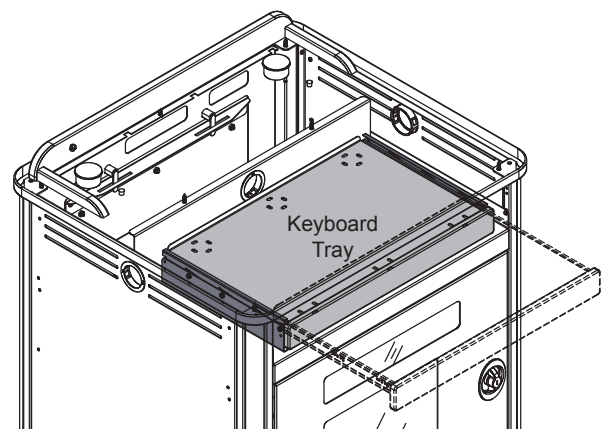

Figure 5
1. To flip, pull out the tray and locate the black plastic lever on each slide. **Figure 5.**